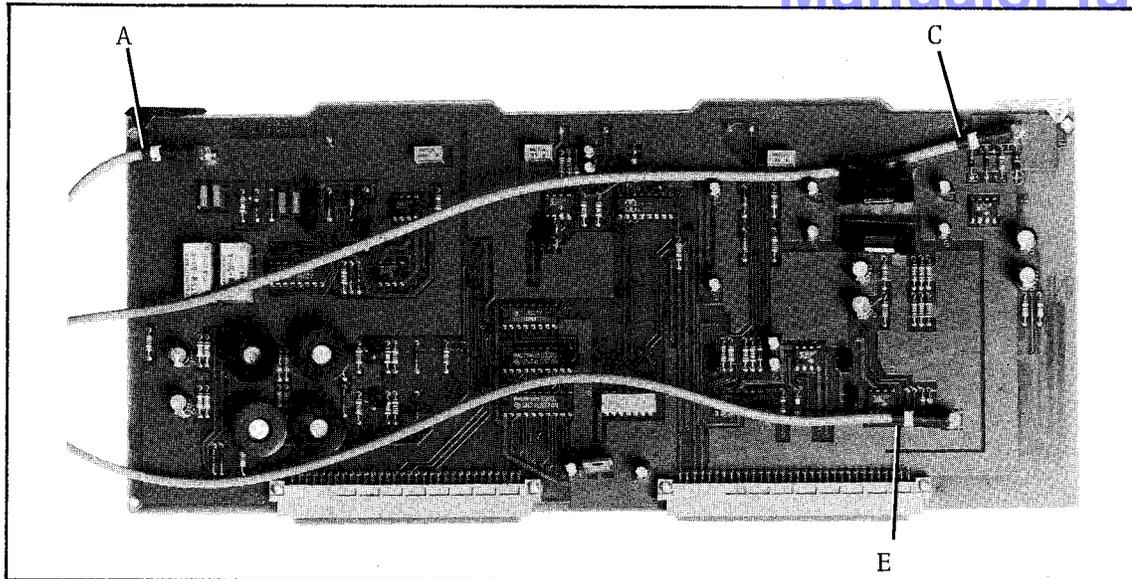

Figure 2-3. 1kHz Transducer Board
2. Connect the three coaxial cables listed in the required part list to the three connectors on the 1kHz Transducer Board Assembly, as shown in Figure 2-3.